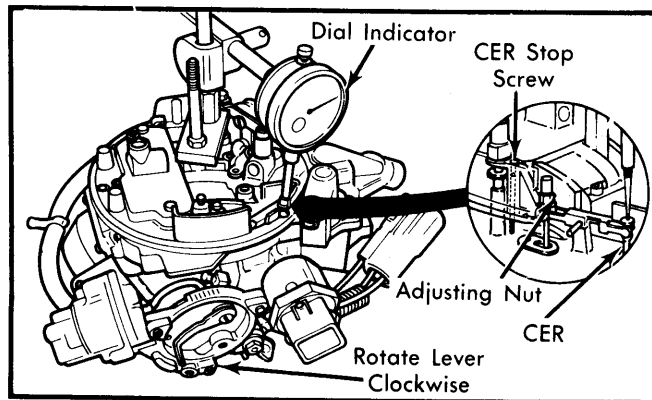

Fig. 7 "CER 0°F (-18°C) Start" Adjustment
3) Do not remove dial indicator or reset it to zero. Remove stator cap. Rotate thermostat lever clockwise until CER travel stop screw is bottomed on upper body. Dial indicator should read "CER 0°F (-18°C) Start" specification. See Fig. 7. To adjust, turn CER travel stop screw until dial indicator reading is within specifications.